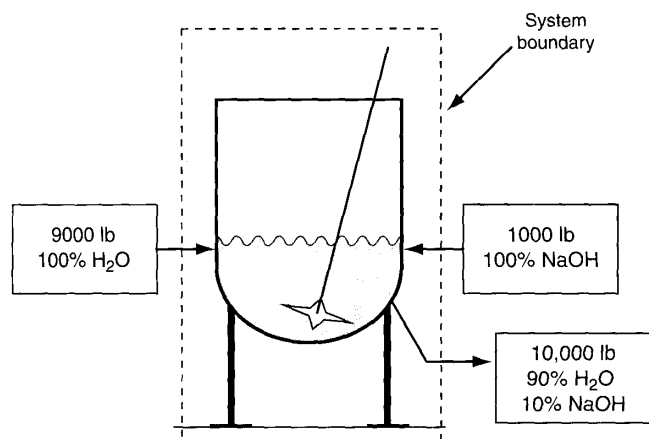

Figure 12 The batch process in Figure 11 represented as an open system.
- ◆ We can summarize the **hypothetical operation** of the **batch** as a flow system (open system) as follows (**Figure 12**):